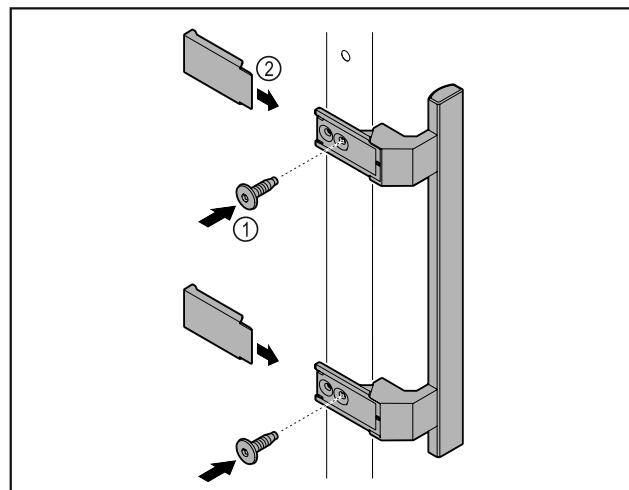

Fig. 8
- ▶ Attach handle from accessory kit to the door using the screws *Fig. 8 (1)* supplied.
- ▶ Put on cover *Fig. 8 (2)*.